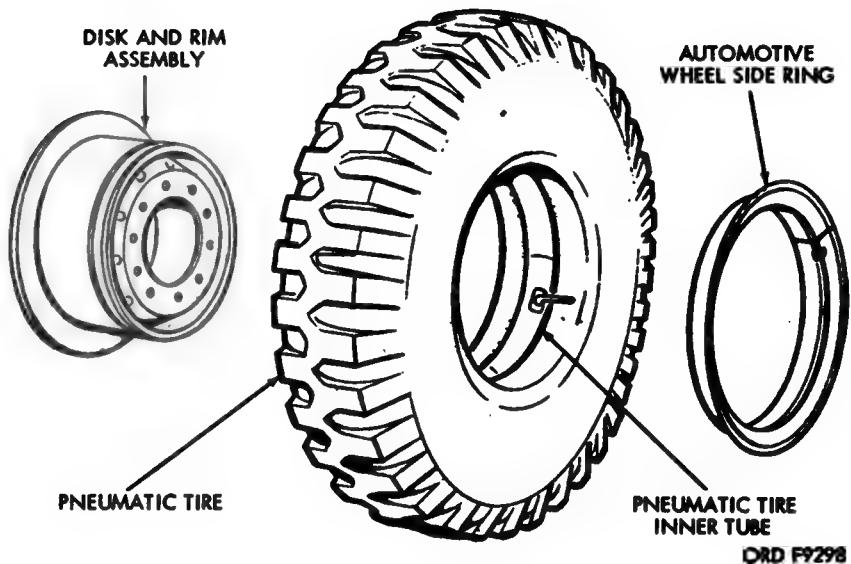

Figure 140. Wheel and tire—exploded view.
- (1) The early model wheel in the M114, M114A1, and M123A1 howitzer consists of the wheel disk and rim, the wheel and hub ring, and 18 wheel ring retaining nuts (fig. 140). The wheel disk has a bead only at the rear. The front of the disk and rim bears 18 wheel disk rim studs. The wheel and hub ring is a separate piece which serves as the outer head for the tire. It is held to the disk and rim studs by the 18 wheel retaining nuts (figs. 140 and 141). The wheel disk rim is attached to the wheel hub by ten wheel retaining nuts.
- (2) The later model wheel in the M114, M114A1, and M123A1 howitzer consists of the wheel disk and rim, and side rim. The wheel disk has a large bead at the rear and a small bead at the front. The side rim is a tension ring which locks behind the small front bead of the disk and acts as the outer bead for the tire. The wheel disk